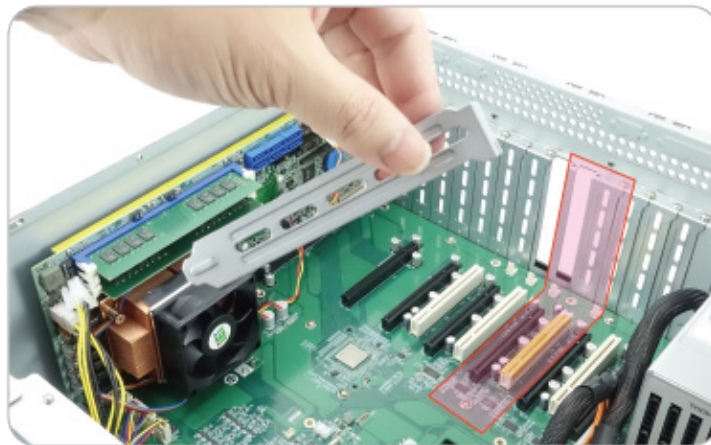

Figure 3-5: Remove Two Blank Brackets
Step 3: Locate available PCIe slots and remove the blank brackets. The Mustang-200 is compatible with PCIe x4, x8 and x16 slots, and needs two side-by-side PCIe slots for installation. Remove two blank bracket panels on the back of the computer that align with the PCIe slot (right side in **Figure 3-5**) for installing the Mustang-200. Save the bracket screws.